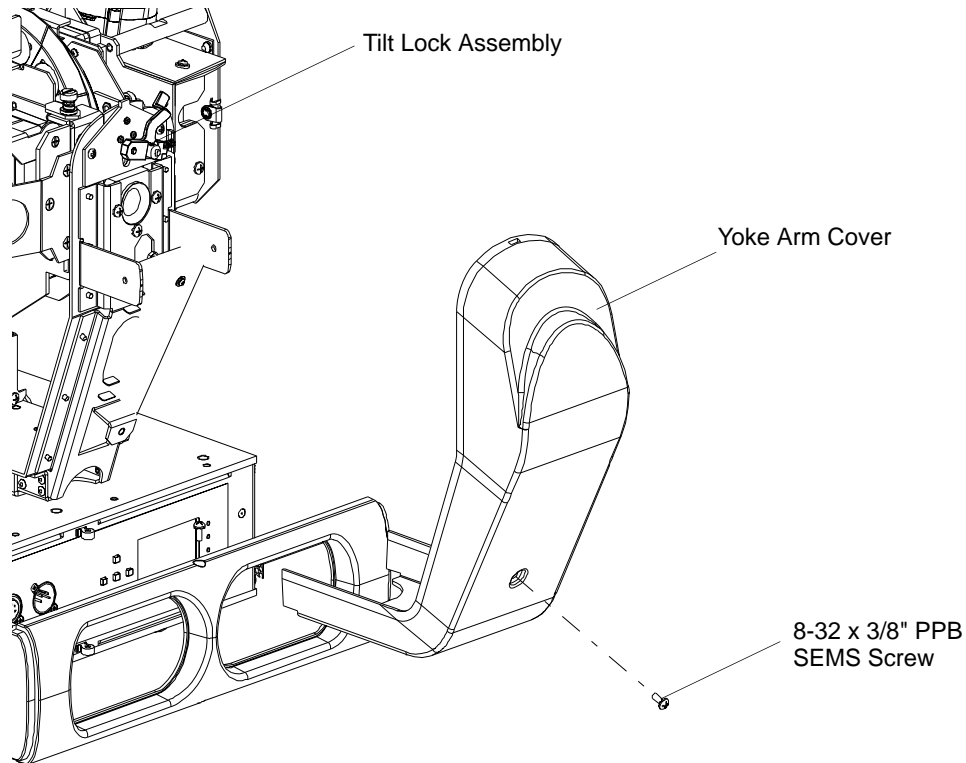

Figure 2-26: Tilt Side Yoke Arm Cover Removal
- Step 5. As shown in Figure 2-26, remove tilt lock side yoke cover by removing one 8-32 x 3/8" PPB SEMS screw.